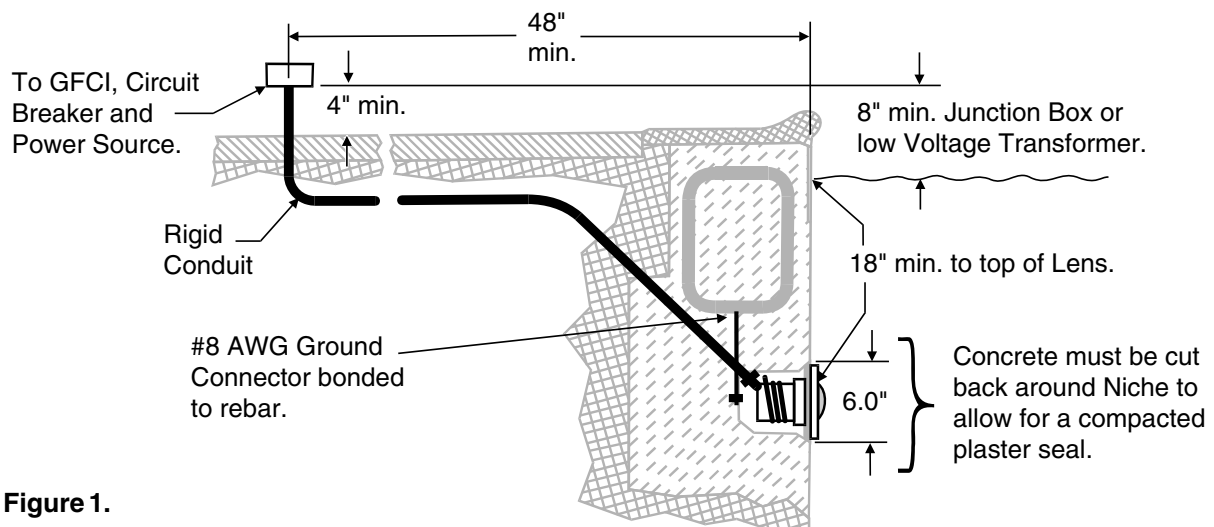

Figure 1.
BEFORE STARTING: The following steps (1-6) describe the tasks that must be completed by the electrician before the IntelliBrite® light fixture is installed. See Figure 1 diagram.
- The Junction Box (or, for 12 volt models, the low voltage transformer) is located at least 8 inches above the maximum water level of the pool and at least 48 inches from the edge of the pool; see Figure 1.
- The wet niche is properly installed so that the top edge of the underwater light's lens is at least 18 inches below the surface of the water in the pool/spa; see Figure 1. (Not more than 20" depth in Canada.)
- The wet niche is properly electrically bonded and grounded via the No. 8 AWG ground connector located at the rear of the niche; see Figure 1.
1. Feed cord through conduit to Junction Box, leaving at least four (4) feet of cord at the light fixture to coil around the light; see Figure 1. The four (4) feet of cord around the light allows the light to be serviced after the spa is filled with water.
- The Junction Box (**or, for 12 volt models, the low voltage transformer**) is located at least 8 inches above ground level and at least 48 inches from the edge of the spa; see Figure 1.
- The wet niche is properly installed so that the top edge of the underwater light's lens is at least 18 inches below the surface of the water in the spa; see Figure 1.
5. Leave at least four (4) feet of cord to coil around the light fixture; see Figure 1 on page 2. This four (4) feet of cord coiled around the light allows the light to be serviced after the spa is filled with water.
6. Cut the cord at the Junction Box, leaving at least size (6) inches of cord to make connections.
7. Strip six (6) inches of the outer cord jacket from the cord to expose the three (3) insulated wires – be careful not to damage the insulation on the three inner wires.
8. Connect all three (3) wires to the corresponding circuit wires in the Junction Box (black wire to power, white wire to common, and green wire to ground) and secure the Junction Box cover in place.
- Aligning the lens position with the LEDs:** While looking through the front of the lens, slightly rotate the lens until the vertical lines on the lens are in focus with the four (4) rows of LEDs below.
12. **Install the IntelliBrite® light assembly into the niche:** Feed cord through conduit to Junction Box, leaving at least four (4) feet of cord at the light fixture to coil around the light; see Figure 1 (page 3). The four (4) feet of cord around the light allows the light to be serviced after the spa is filled with water.
13. Cut the cord at the Junction Box, leaving at least six (6) inches of cord to make connections.
14. Strip six (6) inches of the outer cord jacket to expose the three (3) insulated wires (be careful not to damage the insulation on the three inner wires).
15. Connect all three (3) wires to the corresponding circuit wires in the Junction Box and secure the Junction Box cover in place.